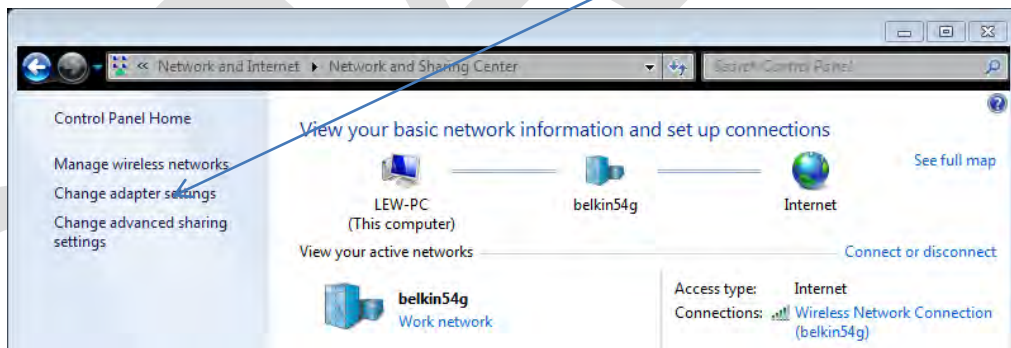

Fig 2
- c. When the Network and Sharing Center opens click on “**Change adapter settings**” (Fig 2)